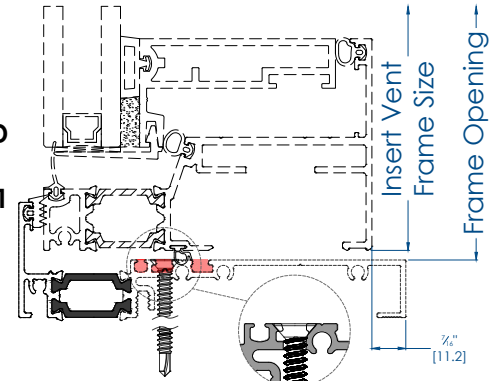

FIG. 1 Flat Head Fastener
- CRITICAL:** Install two OPEN CELL BAFFLES from both sides at the head of each opening. **See PAGE 25, FIG 1**
- IF ANCHORING THROUGH THE FRAME FLAT HEAD FASTENERS MUST BE USED TO ALLOW THE VENT INSERTION.** **See FIG 1**
- Seal Anchor Fasteners Heads, **See FIG 1, item 2**